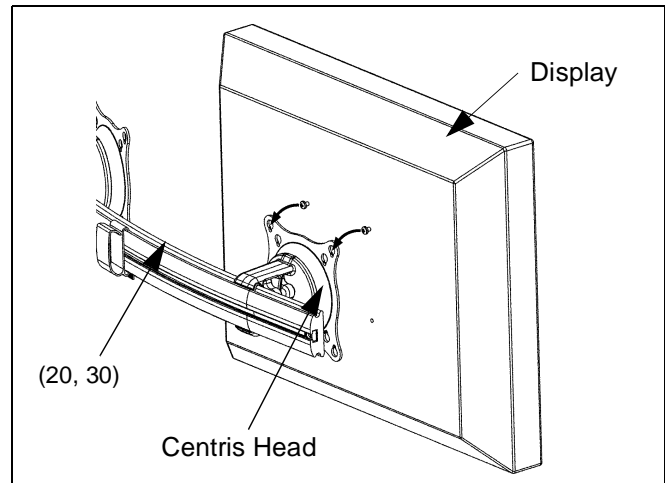
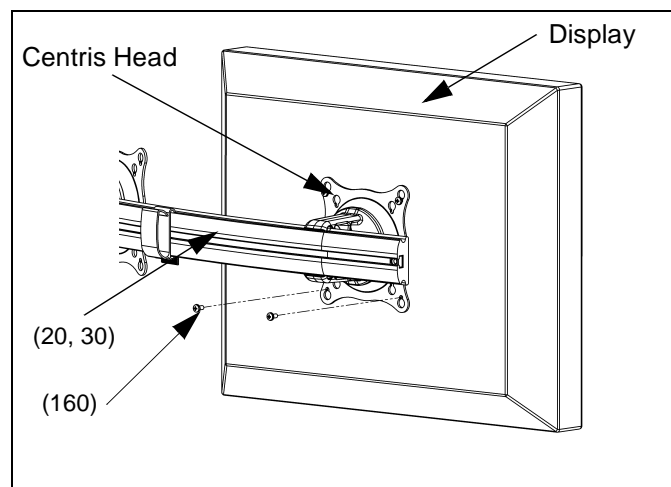

Figure 6: Hang Display
Figure 7: Secure Display to Centris Bracket
2. Hang display on Centris head. (see Figure 6)
3. Install bottom two M4 x 12mm Phillips pan head screws (160) through Centris head mounting holes and into lower mounting holes in display back.
screws (160). (see Figure 7)